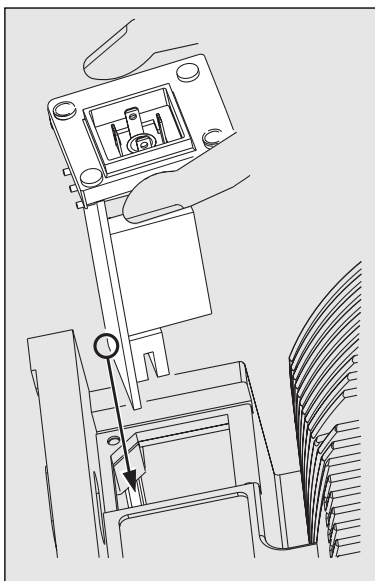

Fig. 17
- ▶ Hold the relay component with your right hand gripping the left and right hand edges of the relay cover, and tilt the front end slightly to the left (see fig. 17)